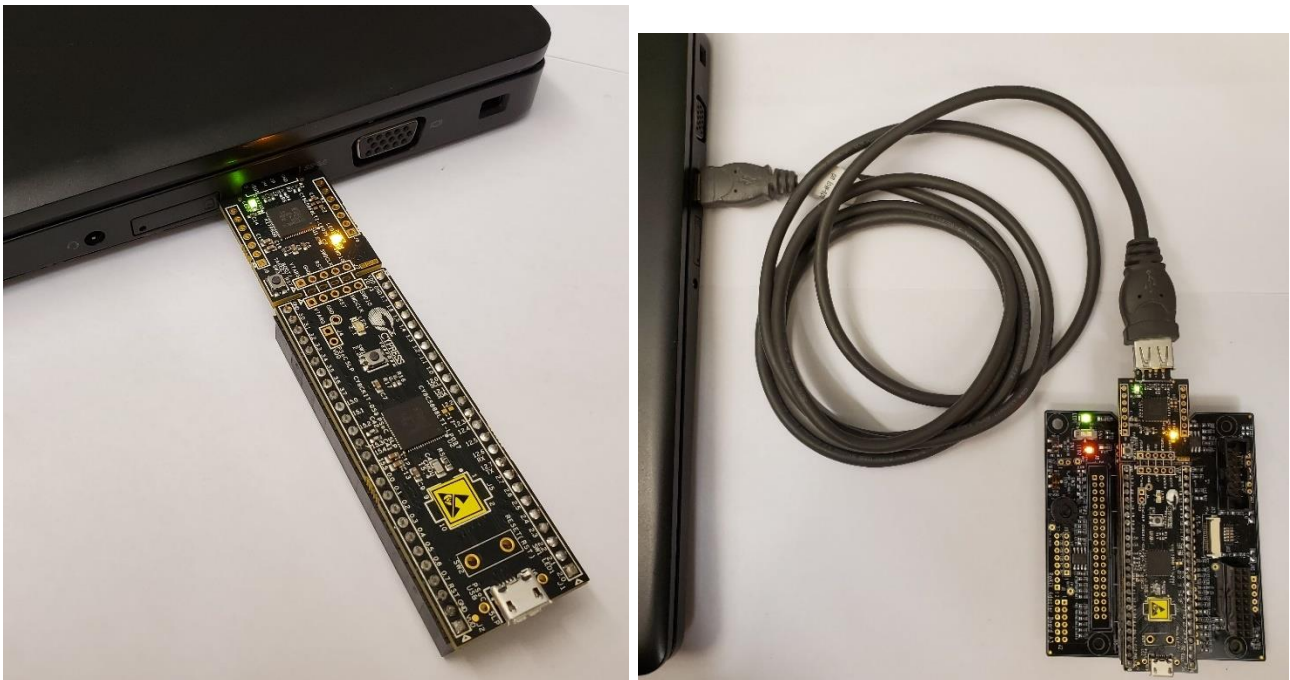

Figure 22. *CY8CKIT-059 Prototyping Kit* Connected to the PC
3. Connect the *CY8CKIT-059 Prototyping Kit* into the USB port of the PC directly or with a *USB extension cable A-Male to A-Female* as shown in Figure 22 (note that firmware flashing is always done via USB-A PCB connector, not micro-USB connector on the other side of the board).